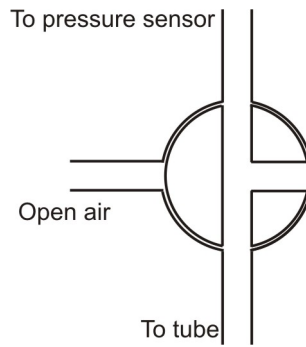

Figure 4: Three way valve – Position B
- Turn the three way valves to seal the system from the surroundings (Position B – see figure 4)